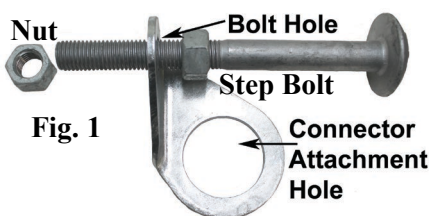
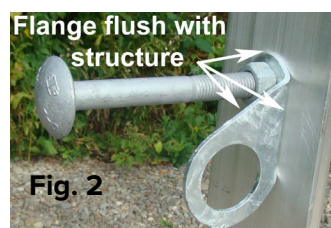

Fig. 1
Fig. 2
- ◆ Install a compatible nut onto the step bolt and run to the end of threads (Fig.1).
- ◆ Insert the step bolt threads into the Flange bolt hole (not the connector attachment hole, which is larger) (Fig.1) and into the support structure hole (Fig.2).